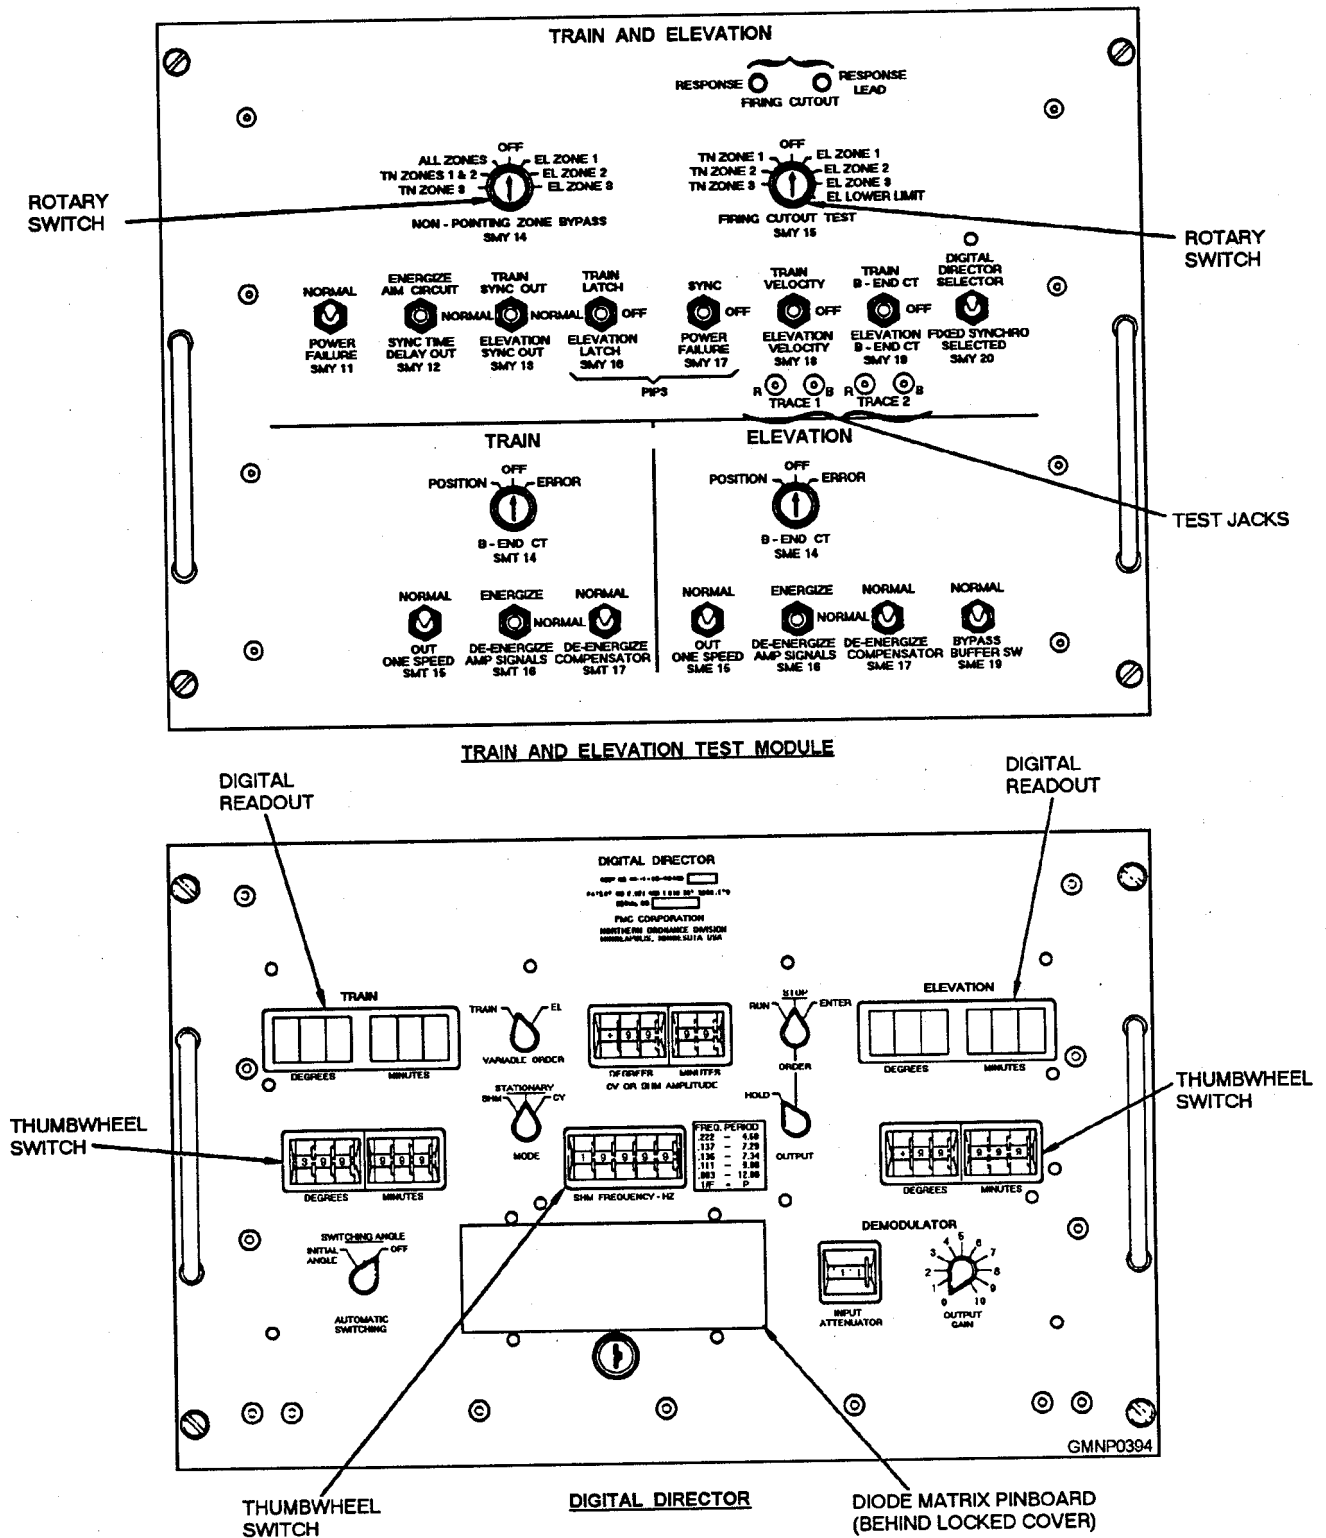

Figure 7-16.—Electronics panel, EP3 (sheet 1 of 2).
(fig. 7-16) contains the train and elevation test module and the digital director (DD), the local control handwheel module (LCHM), and the electronic servo control unit (ESCU).
The LCHM (fig. 7-16, sheet 2 of 2) generates train and elevation local control position order signals to point the launcher. Digital readouts on the LCHM show launcher train and elevation positions. Response signals from synchros in the train and elevation power drive receiver-regulators operate the digital readouts on the LCHM. The LCHM is the primary local control unit for the launcher and comes on-line automatically when local pointing is selected. During a HARPOON casualty mode, the LCHM is required to point the launcher.